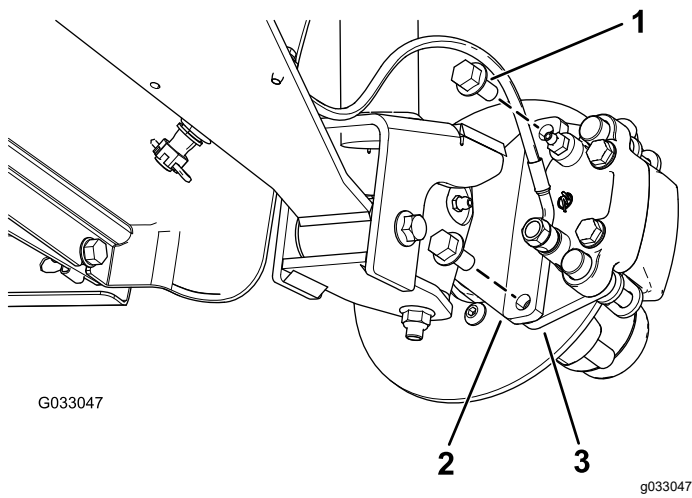
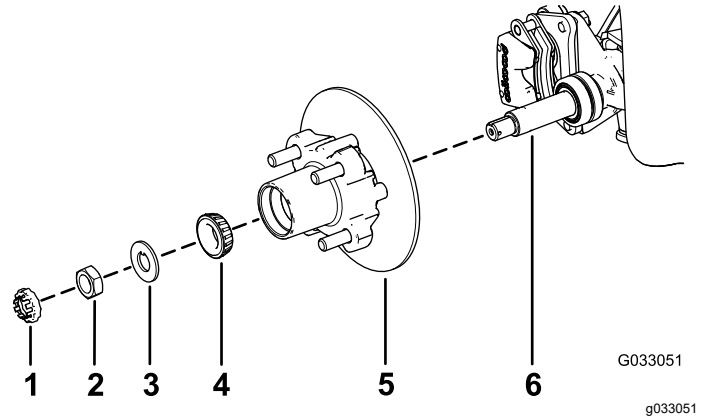

Figure 24
Figure 28
3. Remove the flange-head bolts (3/8 x 3/4 inch) that secure the bracket for the brake assembly to the spindle and separate the brake from the spindle (Figure 24).
1. Apply a light coat of the specified grease to the spindle (Figure 28).
2. Assemble the hub and rotor onto the spindle with the rotor inboard (Figure 28).
3. Assemble the outboard bearing onto the spindle and seat the bearing to the outboard race (Figure 28).
4. Assemble the tab washer onto the spindle (Figure 28).
5. Thread the spindle nut onto the spindle and tighten the nut to 15 N·m (11 ft-lb), while rotating the hub to seat the bearing (Figure 28).
2. Align the brake pads to either side of the rotor (Figure 24) and the holes in the caliper bracket with the holes in the brake mount of the spindle frame (Figure 28).
3. Secure the caliper bracket to the spindle frame (Figure 24) using the 2 flange-head bolts (3/8 x 3/4 inch).